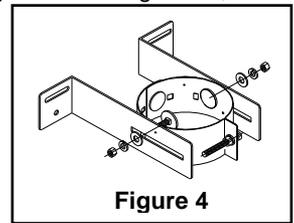

Figure 4
- If you are going up the outside wall (Figure 2), a Wall Support (PWS) is required. Pre-assemble the support as shown on Figure 4. The collar is adjustable for either 3" or 4" pellet vent. Install the wall support on the vent and tighten the band locking bolt just enough to hold the wall support in place.